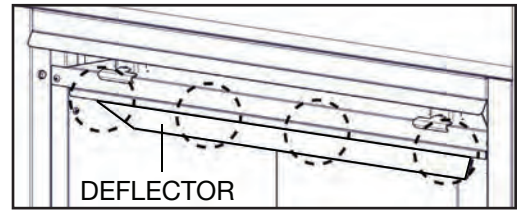

Fig. 1
- C.** To ease assembly, remove the four hex head screws securing the deflector from inside the top front of the firebox (**Fig. 1**). Set deflector aside.